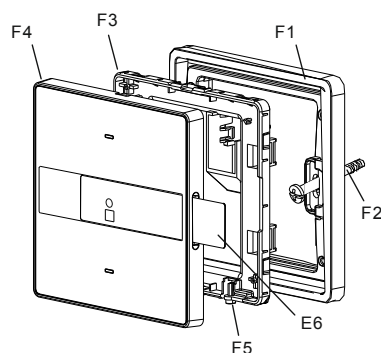

Figure 1: Mounting sequence
- Press the programming button (F5) on the device to initiate the assignment of the physical address to the device (figure 1).